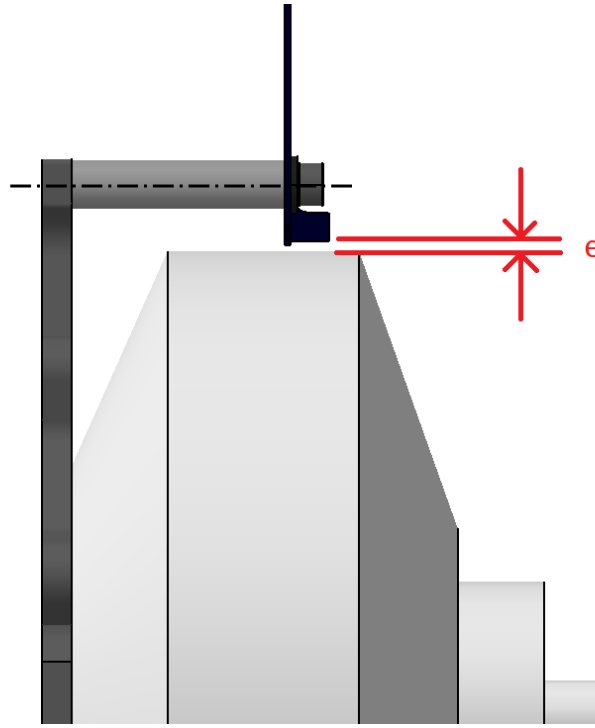

Fig. 4.22: Gap control between the probe and the motor
- ❑ Adjust the radial distance between the sensor head of the probe and the rotor edge, using the slots on the circuit. Make sure the gap between the optical sensor and the motor shown as e in Fig 4.22, to respect the specifications.